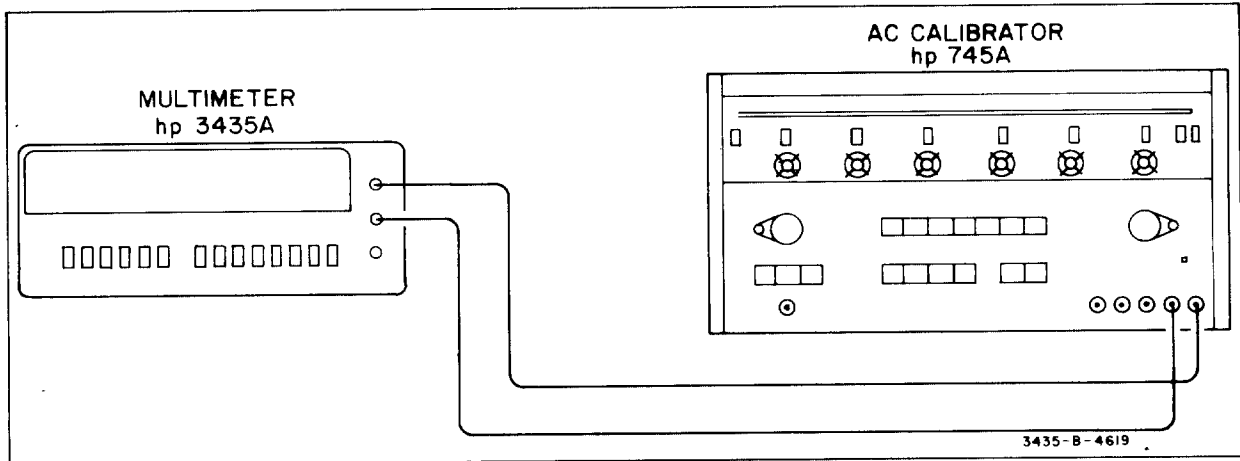

Figure 5-9. AC Gain Adjustment.
- Connect the 745A to the Multimeter as shown in Figure 5-9.
**5-29. ⑧ 20 V Range, 20 kHz Adjustment (R102).**
c. Connect the 745A to the Multimeter as shown in Figure 5-9.
**5-30. ⑨ 2 V Range, 20 kHz Adjustment (R110).**